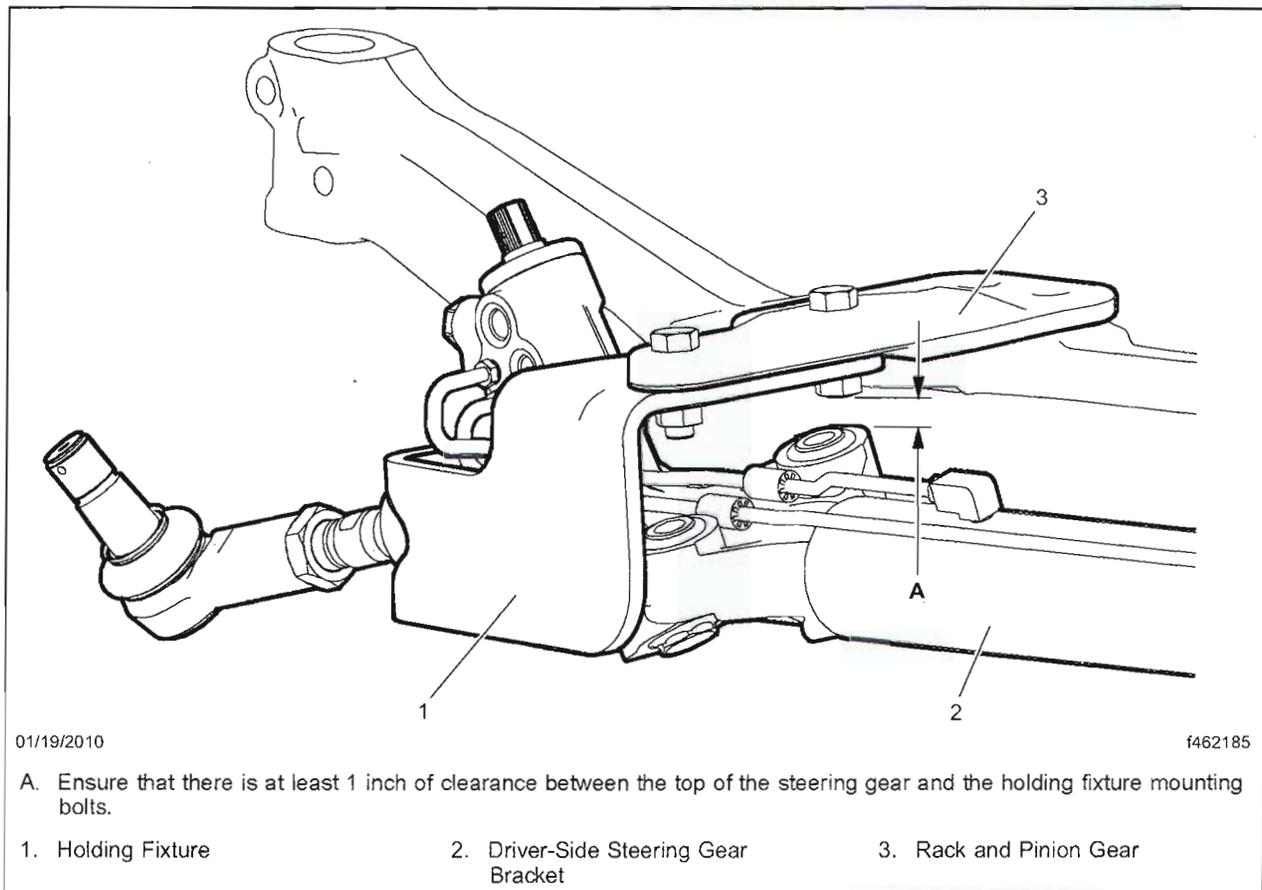

Fig. 3, Rack and Pinion Gear Engaged in Holding Fixture
- 12.4 Ensure that there is at least 1 inch of clearance between the top of the steering gear and the holding fixture mounting bolts. See **Fig. 3**.